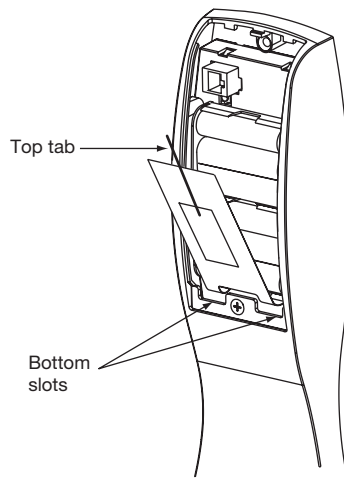

Fig. 3
3. Install battery keeper clip by inserting tabs into bottom slots. To remove keeper, pull on top tab (Ref. Fig 3).